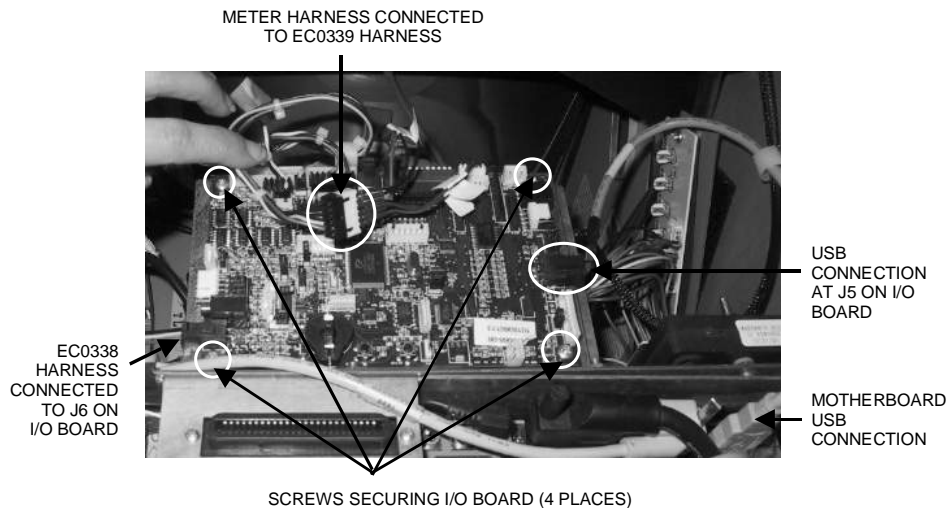

FIGURE 4 - NEW I/O BOARD IN CLASSIC GAME
7. Line up the supplied fish paper on top of the mounting bracket. Align the provided I/O board on the fish paper, and secure to the metal mounting bracket using the 4 provided screws. See Figure 4.
8. Locate the meter harness already in the game, then locate the free 6-pin connector on this harness. Connect this 6-pin connector to its mating connector on the provided EC0339 harness (see Figure 4).
13. Locate the SA0226 DC power harness already in the game, then locate the free 4-pin connector on this harness. Connect this 4-pin connector to the provided EC0338 harness. Connect the other end of the EC0338 harness to J6 on the new I/O board. See Figure 4.
14. Disconnect the USB cable from the motherboard. See Figure 4. This cable will not be reused. Connect the mating end of the supplied USB cable to the USB connector on the motherboard, and the other end to J5 on the new I/O board. See Figure 4.